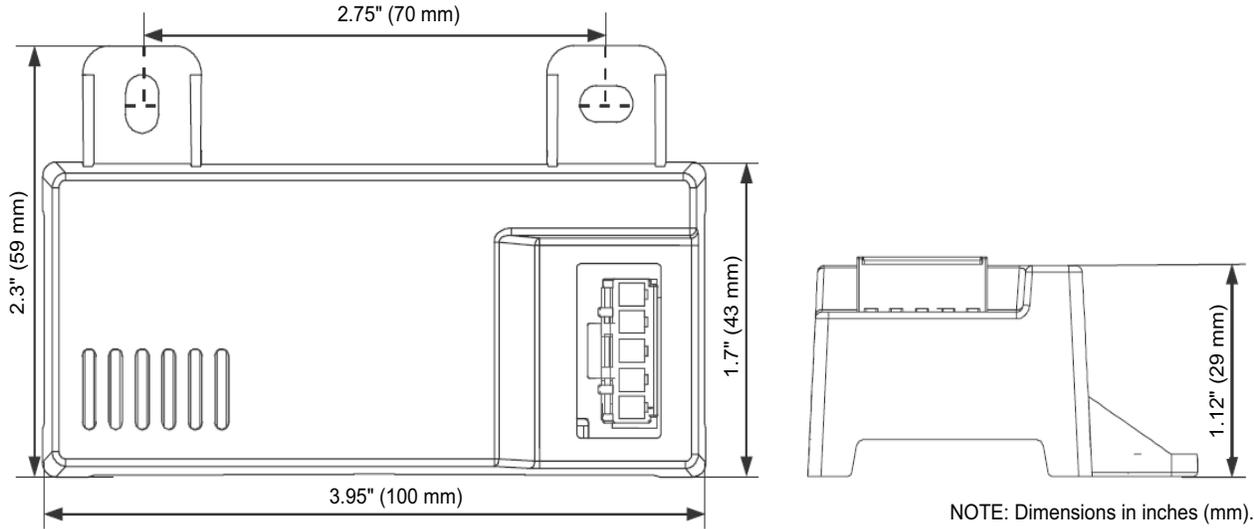
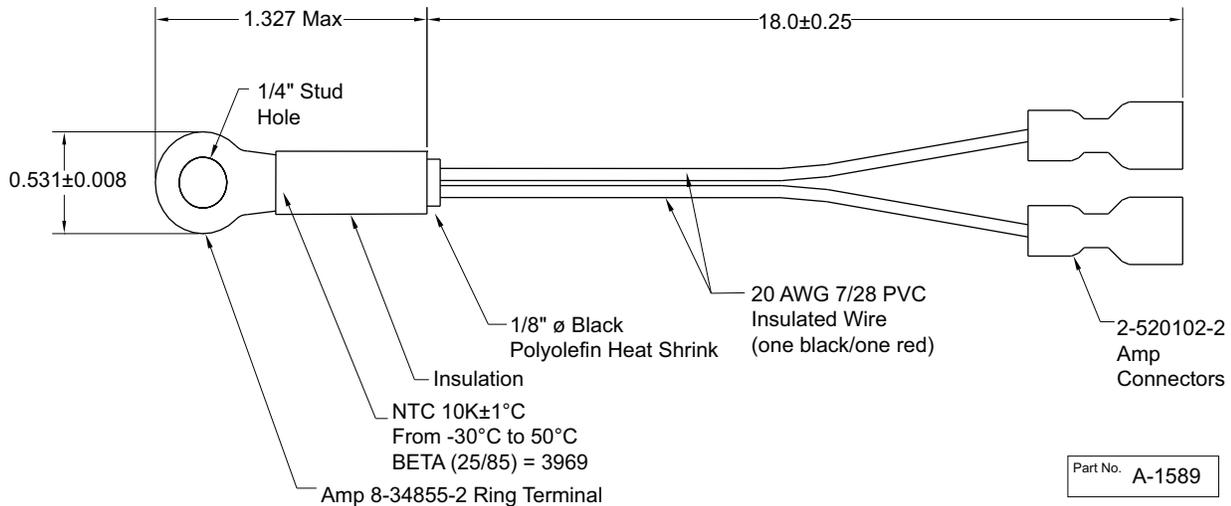
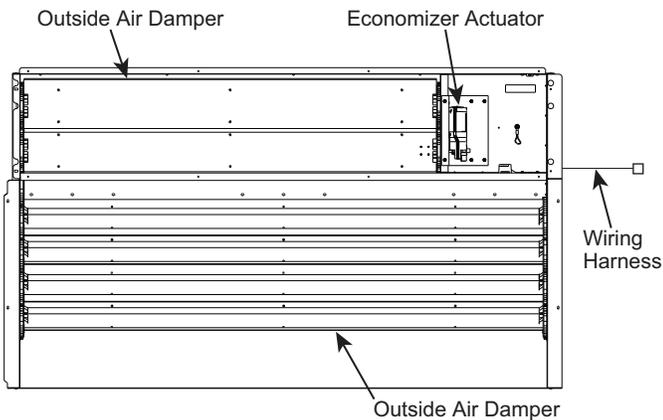

Fig. 86 – HH57LW001 Dimensional, Connection and Switching Information
Fig. 87 – HH79NZ039 Dry Bulb and Mixed Air Sensor Wiring
Fig. 88 – EconomizerONE System Component Locations
When using the HH57LW001 enthalpy sensor (see Fig. 86) for outside air changeover, the existing HH79NZ039 dry bulb sensor (see Fig. 87) must be removed. The enthalpy sensor will be mounted in the same location as the dry bulb sensor (see Fig. 88). When the enthalpy sensor's OA (Outside Air) temperature, enthalpy, and dew point are below their respective set points, outside air can be used for free cooling. When any of these are above their set point, free cooling will not be available. Enthalpy set points are configurable and create an enthalpy boundary according to the user's input. For additional details, see Fig. 89-90 and Table 36.
The optional enthalpy control sensor (P/N: HH57LW001) communicates with the POL224 economizer controller using the 5-wire harness, 48TC005213. The HH57LW001 sensor can be used as a single outside air enthalpy, a differential return enthalpy, or a differential return temperature sensor. Refer to the base unit control wiring diagrams found earlier in this book to wire the HH57LW001 enthalpy sensor for each option. See Fig. 86 and Table 38 on page 68 to locate the wiring terminals for each enthalpy control sensor.
Economizers are shipped standard with an HH79NZ039 outside air dry bulb sensor (refer to Fig. 87). System default setting (high temp limit) is 63°F (17°C) and has a range of 48°F to 80°F (9°C to 27°C). Sensor is factory installed on economizer.
If installing the optional HH57LW001 enthalpy sensor, the HH79NZ039 dry bulb outside air sensor must first be removed. Wire sensor to harness 48TC005213 and the (5) wires from the harness to the EconomizerONE harness in the return air chamber. Harness 48TC005213 has a 5-pin plug that connects directly to the HH57LW001 enthalpy sensor. Refer to the base unit control wiring diagrams earlier in this book for wiring connections. Refer to Fig. 86 and see Table 38.